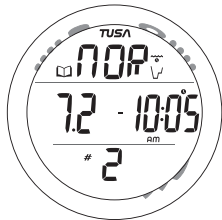

Fig. 56 - LOG PREVIEW
**Log Preview** information includes (Fig. 56):